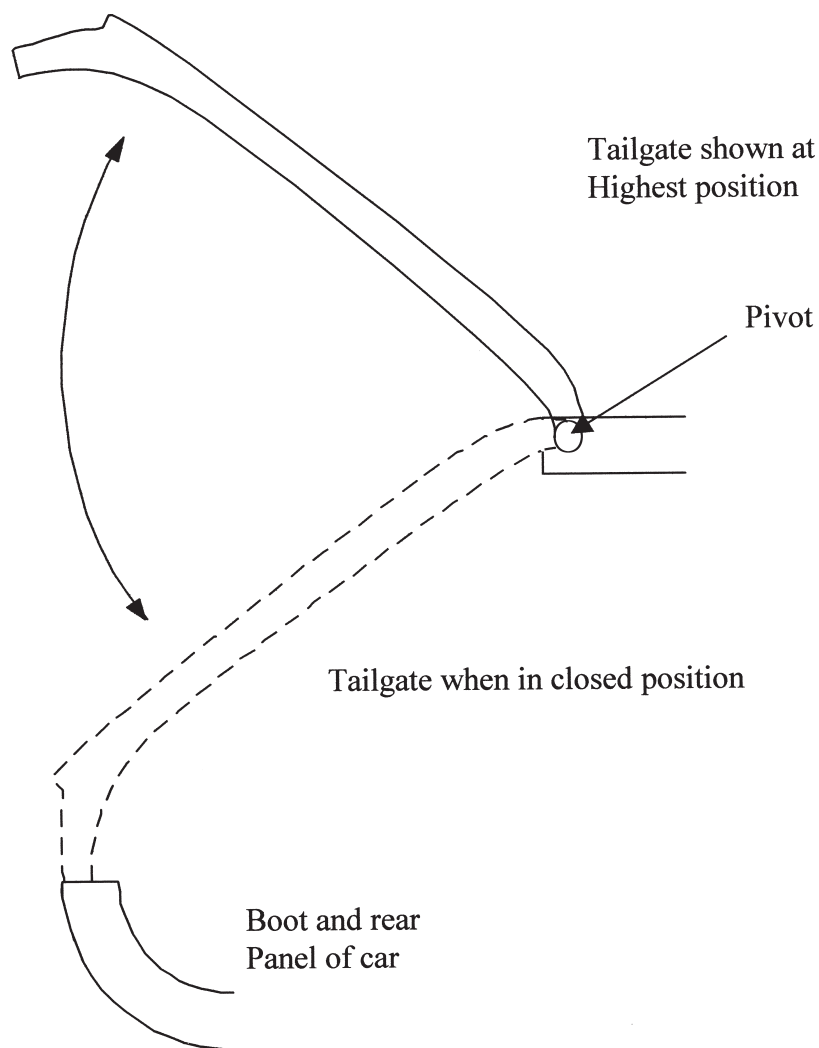

Figure 20
- (ii) Modify **Figure 20** to show how you could use a positional sensor to detect the maximum opening of the tailgate.